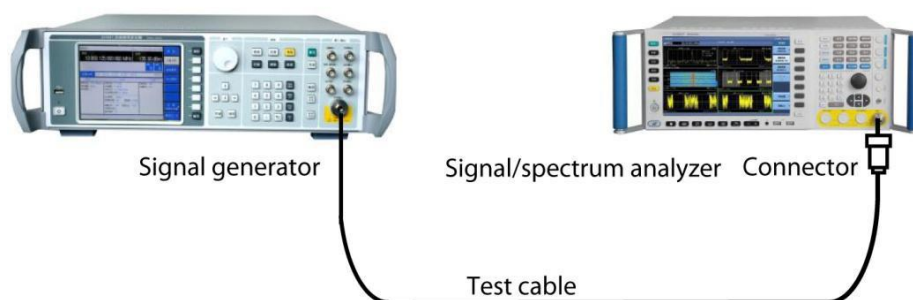

Fig. 4.78 Connection Settings of Third-order Intermodulation Measurements
Step 2: Connect the radio frequency output port of the signal source to that of the analyzer. As shown in Fig. 4.78: